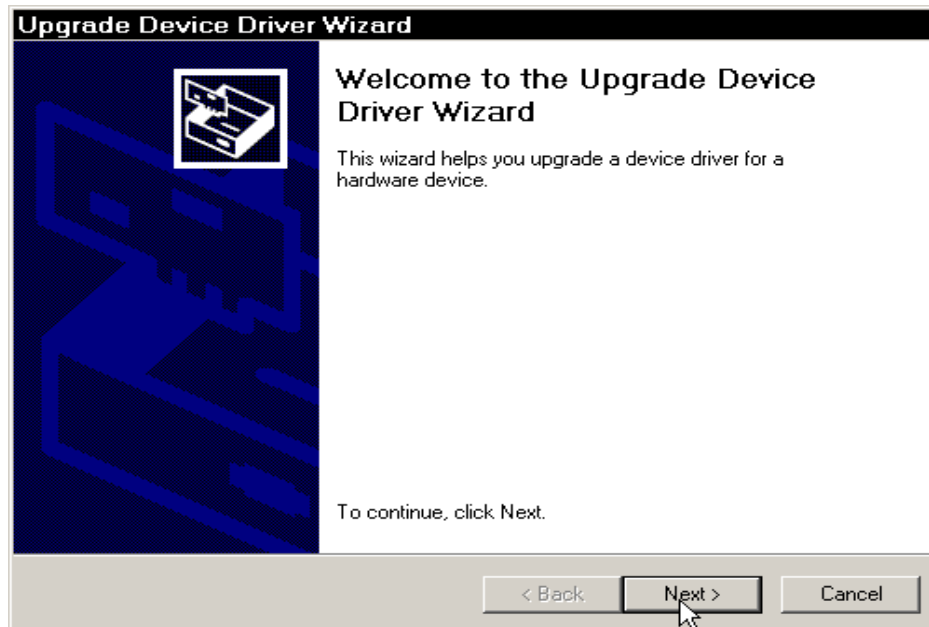

Figure 3 Upgrade Device Driver Wizard
8. Click **Next**, as shown in Figure 3.